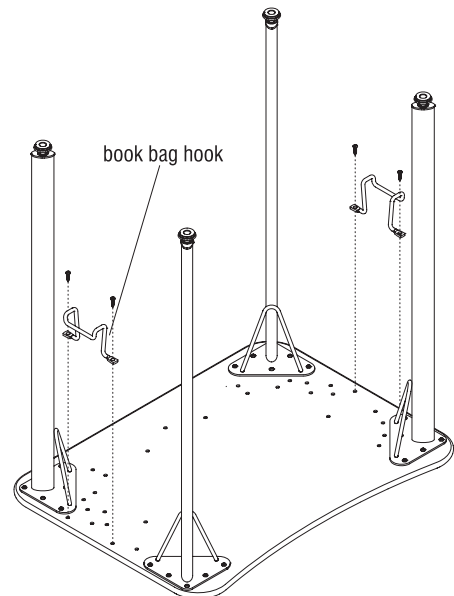

Figure 4
1. Carefully turn the desktop upside down on a soft, protective surface (Figure 4).
2. Position the book bag hooks, as illustrated onto the underside of the desktop, aligning to pre-drilled holes. Using the appropriate screws (See Details A & B, page 1), secure each hook to the desktop. Do not over-tighten screws (Figure 4).